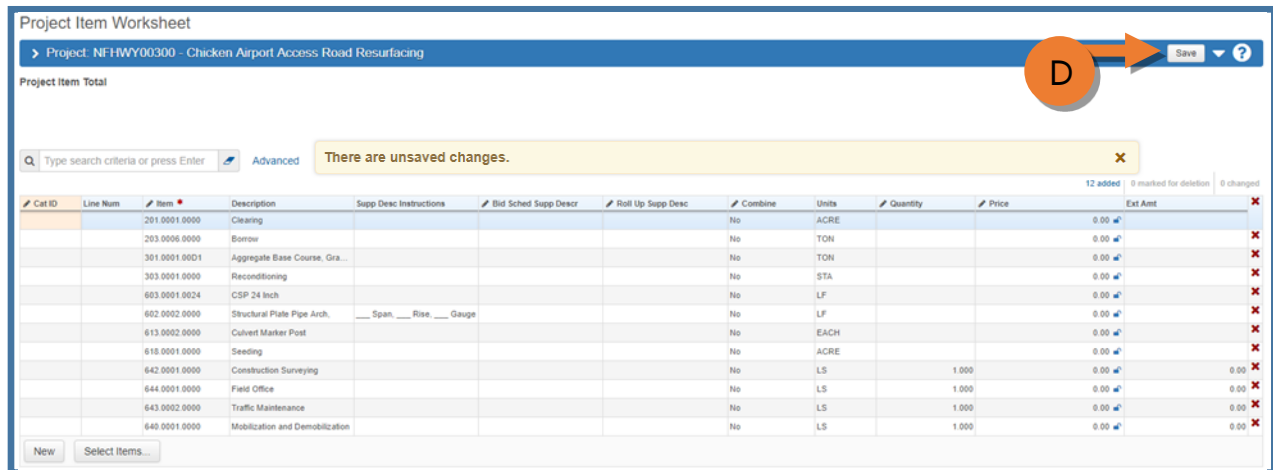

Figure 3.25
The items you selected will appear in the Item Worksheet grid (Figure 3.25).
- If all your items belong to the same category, use the Range Fill option to populate the remaining category fields. Click the **blue down arrow** next to the CatID label check to fill all Rows and click <Fill> (see Figure 3.25 inset).
10. (B) Double click and enter a **Bid Schedule Supplemental Description** if necessary or required (project items with a Bid Schedule Supp Description cannot roll up).